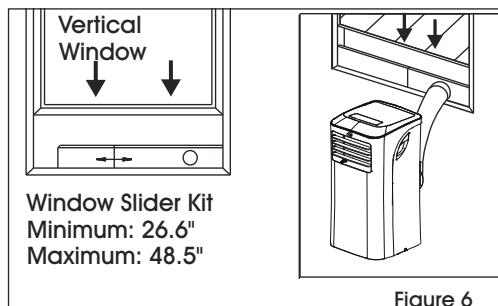

Figure 6
5. Affix adapter B into the window slider kit and seal. (See Figures 6 and 7)